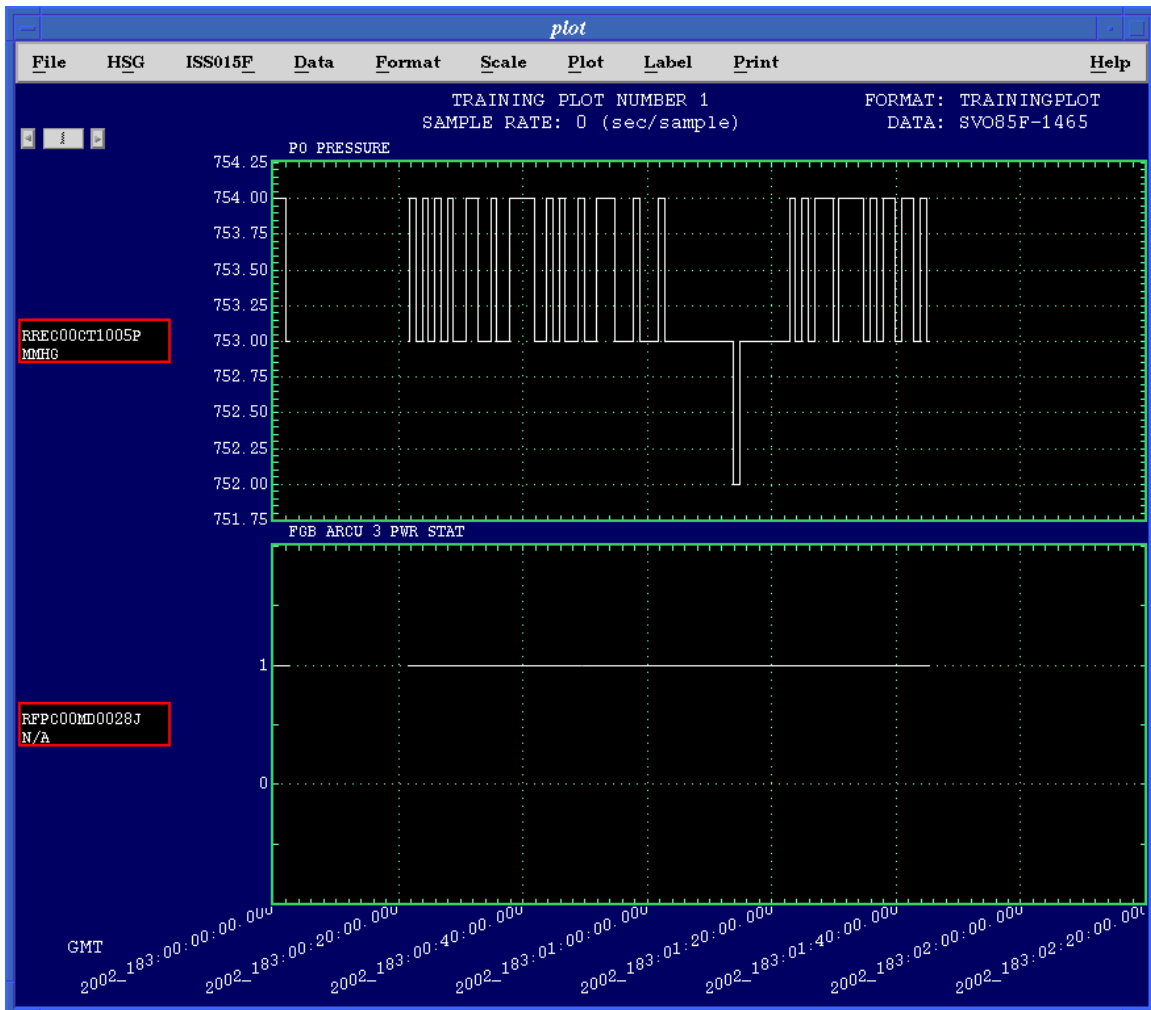

Figure 4-21. Example of plot
7. Scale, Label, and Print selections are no longer grayed out and can be used, as required. Note that the Format and Data file names are in the upper right corner of the screen (see Figure 4-21).